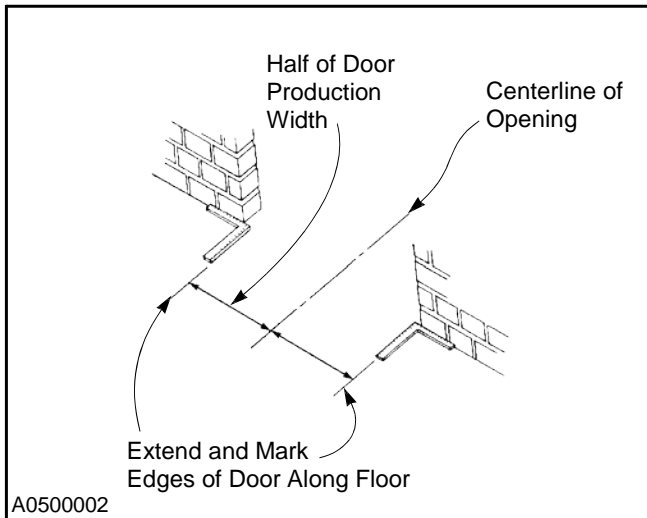

Figure 8
2. Using the centerline as a reference point, lay out and mark half of the door's production width along the floor. (See Figure 8.)